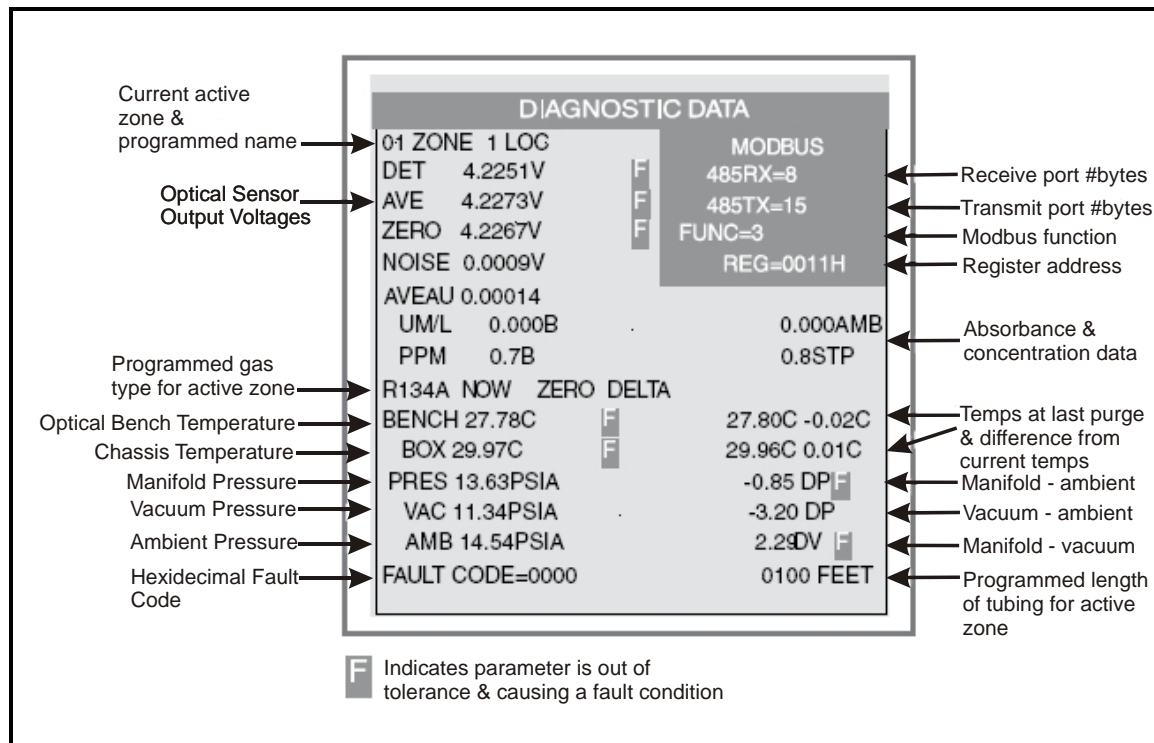

Figure 8-12 - Diagnostic Screen Layout
- **CLIPPING FAULT** - The detector voltage may be out of tolerance. Refer to the *Diagnostic screen (Figure 8-12)* for the DET voltage, AVE voltage and ZERO voltage. Contact Technical Support with this information for further instructions.
- **REZERO VOLT TOL** - The detector output voltage is out of tolerance. Refer to the *Diagnostic screen (Figure 8-12)* and contact Technical Support for assistance.
pulsar. Contact Technical Support with all information from the *Diagnostic screen (Figure 8-12)* for further instructions.
- **BOX TEMP FAULT** - Enclosure's internal temperature is outside normal range (or IR sensor has failed). Check the installation to verify that the monitor is not being subjected to extreme temperatures. Verify that the ventilation holes are not obstructed. Check the *Diagnostic screen (Figure 8-12)* for the **ZERO** temperature, **BNCH** temperature and **BOX** temperature. Contact Technical Support with this information for further instructions.
- **BENCH TEMP FAULT** - Optical bench is outside of normal operating range (or sensor has failed). Check the installation to verify that the monitor is not being subjected to extreme temperatures. Check the *Diagnostic screen (Figure 8-12)* for the **ZERO** temperature, **BNCH** temperature and **BOX** temperature. Contact Technical Support with this information for further instructions.
- **PRESSURE SENSOR** - Manifold pressure is outside normal operating range (or sensor has failed). Check the *Diagnostic screen* record ALL data (*Figure 8-12*). Contact Technical Support with this information for further instructions.